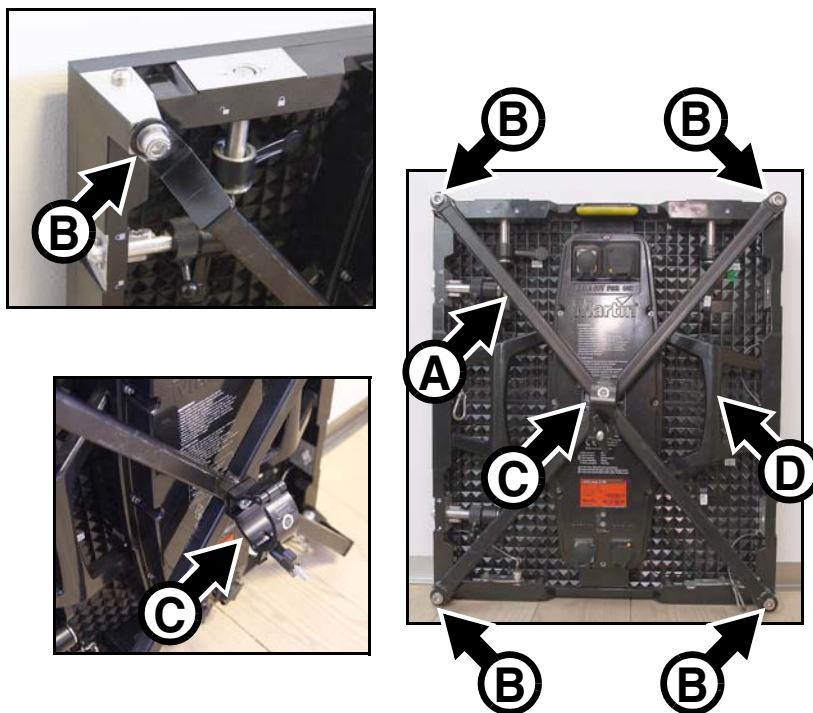

Figure 4: VDO Face Panel Clamp
See Figure 4. The VDO Face Panel Clamp consists of a large bracket **A** with four arms in an ‘X’ shape. A half-coupler rigging clamp **C** is located at the center of the ‘X’.
3. See Figure 4. Bolt a Panel Clamp bracket **A** to the back of the VDO Face 5™ panel using the four Allen (hex) bolts **B** supplied with the Panel Clamp.